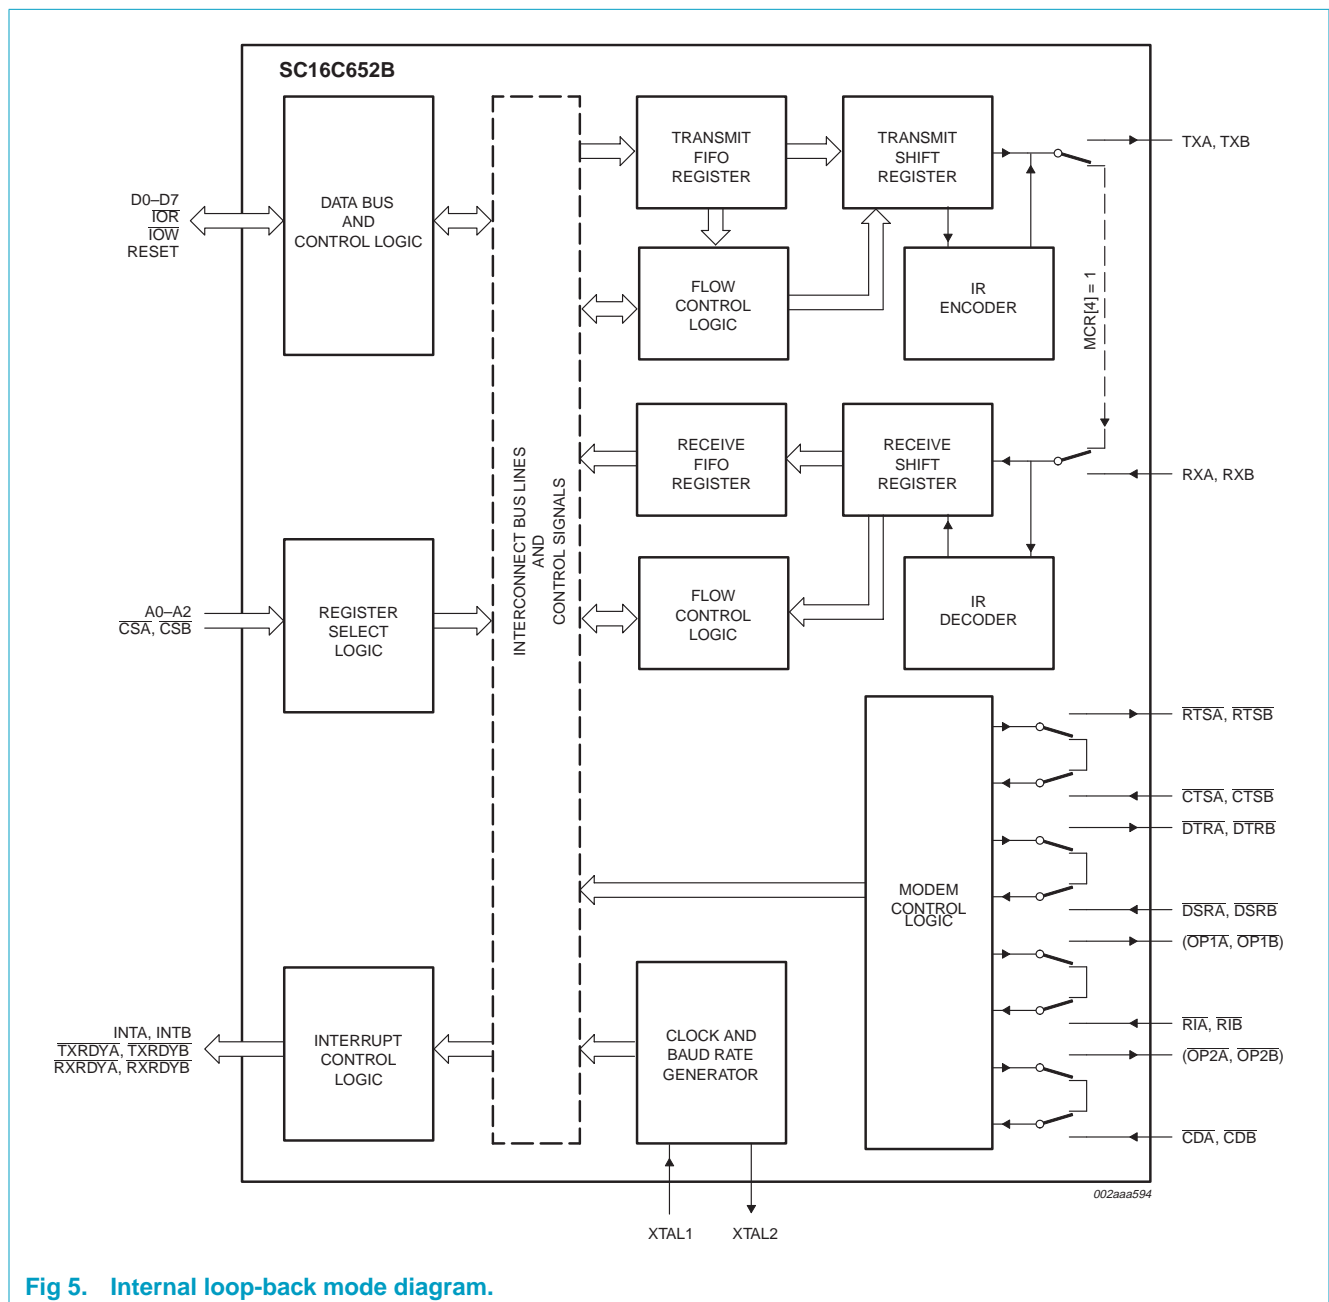

Fig 5. Internal loop-back mode diagram.
The internal loop-back capability allows on-board diagnostics. In the loop-back mode, the normal modem interface pins are disconnected and reconfigured for loop-back internally (see Figure 5). MCR[0:3] register bits are used for controlling loop-back diagnostic testing. In the loop-back mode, the transmitter output (TX) and the receiver input (RX) are disconnected from their associated interface pins, and instead are connected together internally. The CTS, DSR, CD, and RI are disconnected from